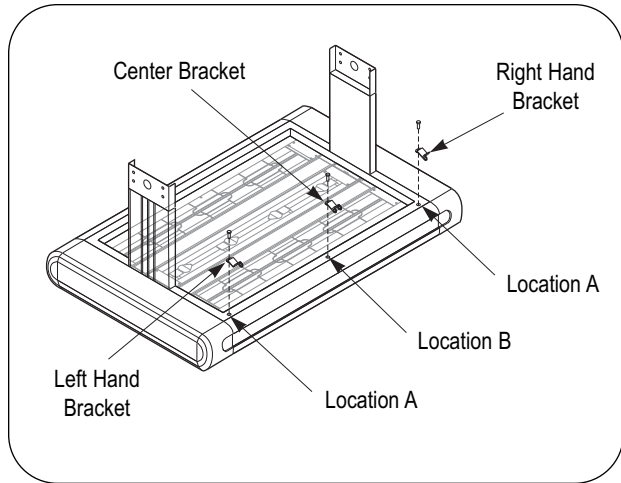

Figure 10. Flip-Up Door – Under Side View
1. Remove the two outer screws used for mounting the end covers. Locate the right and left hand brackets and mount using these screws at location A. For units 48" and larger, a center mounting bracket is required. Usually a wire guard screw will exist at the location of this bracket. Remove this screw and use it to mount center bracket, location B. If no wire guard screw is present, it will be necessary to drill a 0.125" diameter hole at location B. (See Figure 10.)